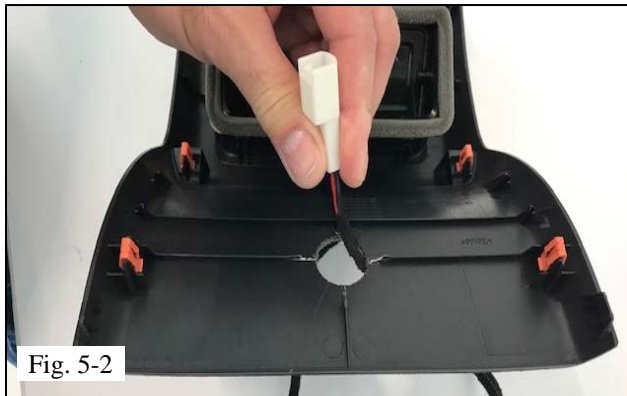

Fig. 5-2
- (b) Feed the wire harness through the 1" hole in the Console Rear End Panel Sub-Assembly (Fig. 5-2).